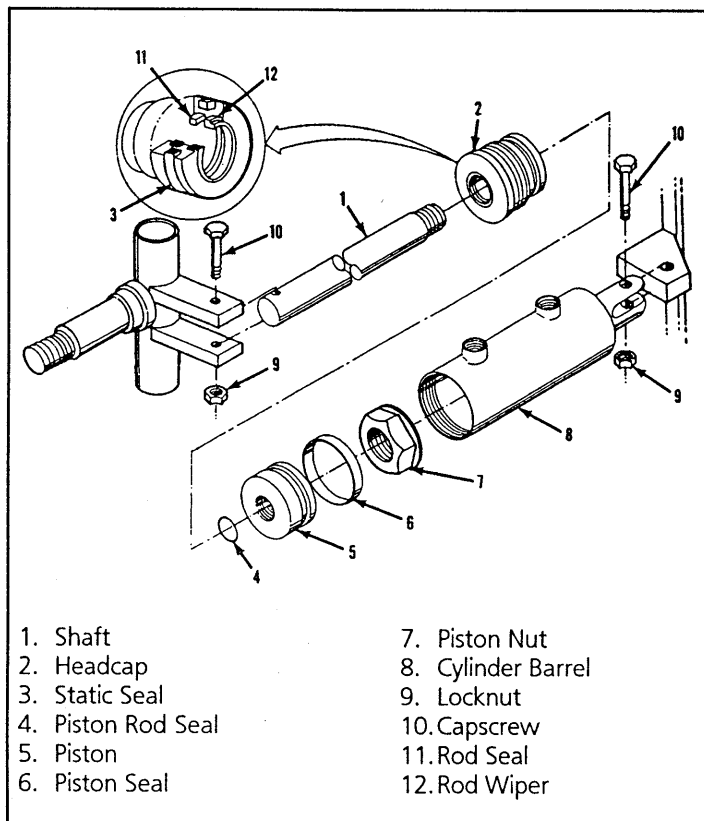

Figure 4-13: Steering Cylinder
4.12 Steering Cylinder (Figure 4-13)